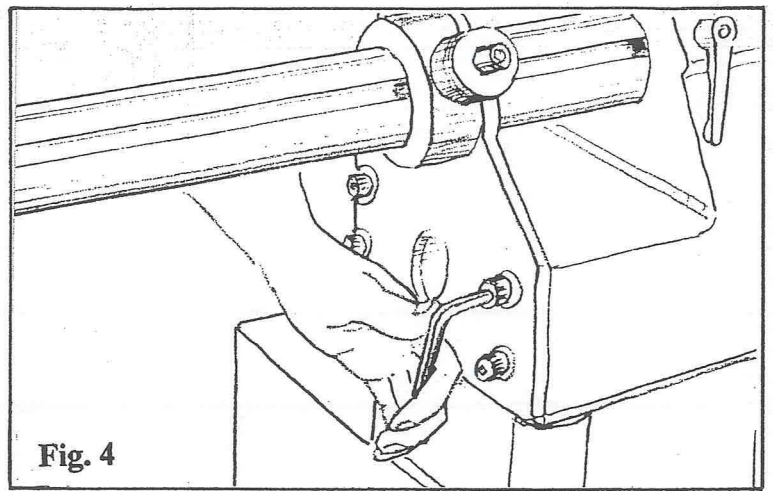

Fig. 4
7. Progressively and uniformly tighten, **first** the M8 screws that hold the *Support Bush* to the *Support Plate*, **then** the M10 screws which clamp the *Support Plate* to the headstock casting. (Fig. 4) (Do not overtighten the M10 screws as they are threaded into cast iron.)